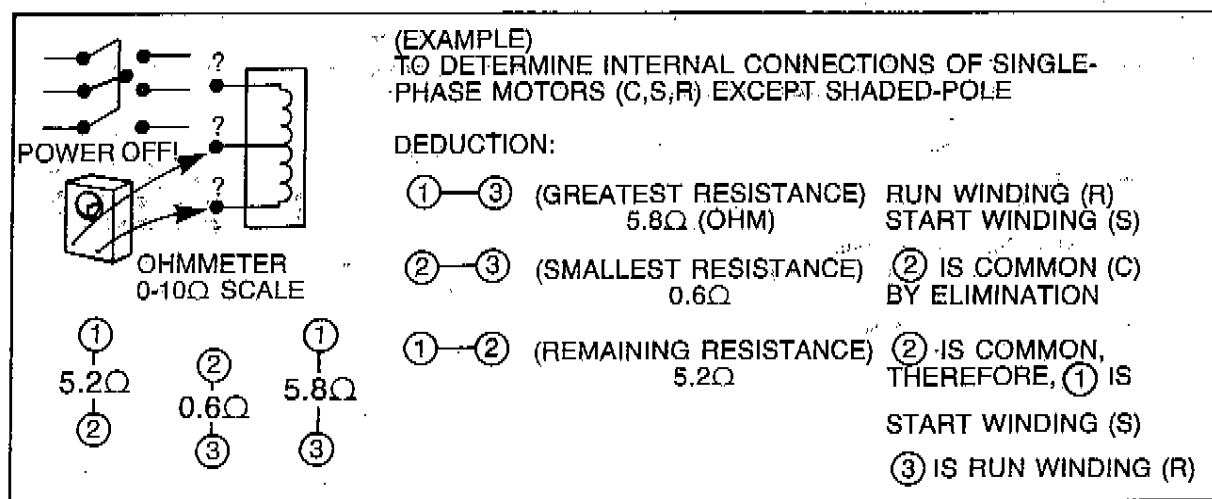

Fig. 19—Determining Internal Connections
terminal must be common (C). Greatest resistance between common (C) and another terminal indicates start winding because it has more turns. This terminal is start (S). Remaining terminal will be run winding (R). (See Fig. 19.)